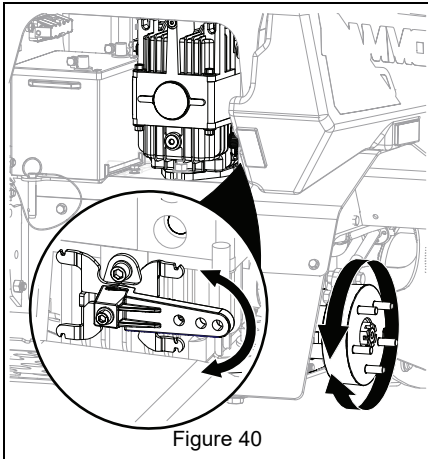

Figure 40
5. Slowly turn pump control arm until hub stops. See Figure 40.